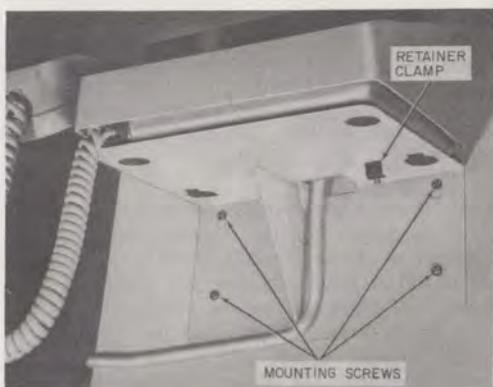

Fig. 21—Shelf for Wall Mounting COM KEY Telephone Set (D-180656 Kit of Parts)
3.29 Where it is necessary to wall-mount an 833 or 2833 desk-type telephone set, install a D-180656 Kit of Parts. The kit of parts (Fig. 21) consists of a mounting shelf and a telephone set retaining clamp. Install the mounting shelf using appropriate fasteners for the surface on which it is to be mounted. Insert the telephone set mounting cord down through the opening at the rear of the shelf. Insert the retaining clamp (screw down) through the slot of the shelf, up into the base of the telephone set. Check that the pads on the telephone set base fit in the slots in the shelf and tighten the retaining clamp until the telephone set is held firmly in place.